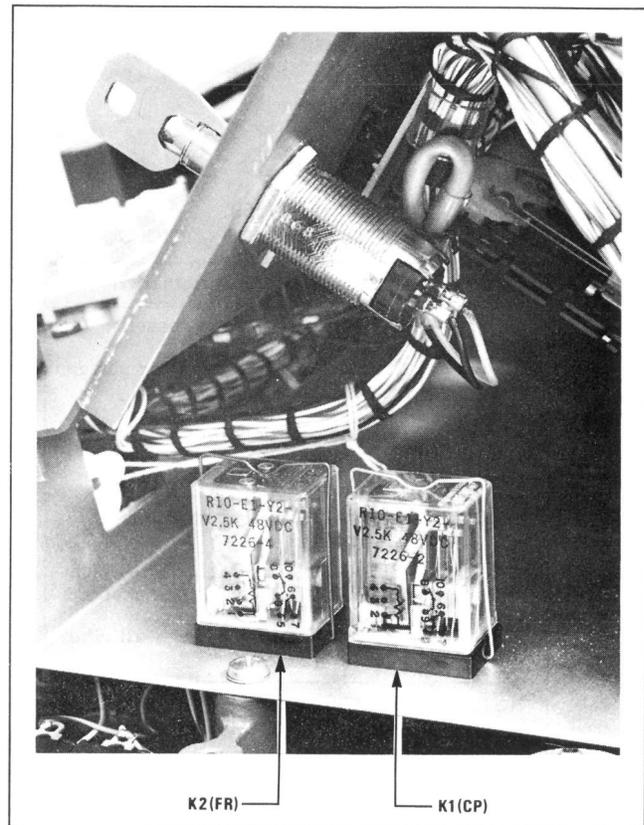

Figure 14 - Supervision Relays, K1 (CP) and K2 (FR)
3. Listen in the headset for the initial 2805 Hz carrier signal from the code transmitter, followed several seconds later by another carrier signal about 400 Hz lower in frequency. The second signal is the return channel tone returned from the remote station, and can be either a Mark or a Space. If this tone is present, the return channel receiver should actuate relay K1 (CP) and, if the tone is a Space, relay K2 (FR). If supervision lamps have been provided on the console, they should light. The relays (Fig. 14) are inside the console, on the right side near the front. By listening carefully you can hear them when they energize. Alternatively, connect an ohmmeter